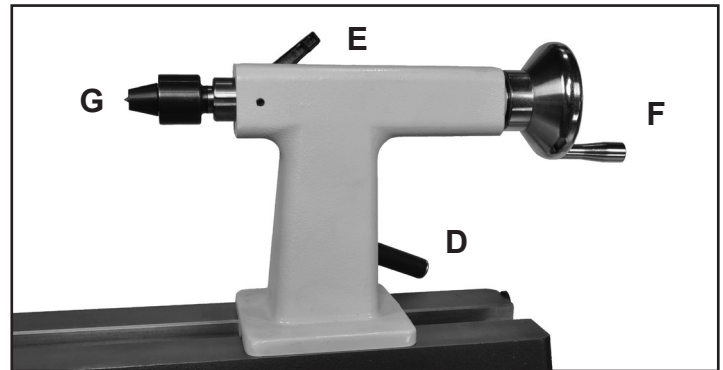

FIG. 5
1. **TAILSTOCK LOCK HANDLE:** (FIG. 5, D) Locks the tailstock in position along the length of the lathe bed. Unlock the cam lever handle to position the tool rest to move the tailstock. Tighten handle when properly positioned. See page 13 for adjusting clamping pressure.
2. **TAILSTOCK QUILL LOCK HANDLE:** (E) Secures the tailstock quill in position. Unlock the handle to move the quill, with live center, forward or backwards. Tighten the locking handle when the quill is finally positioned.
3. **TAILSTOCK QUILL HANDWHEEL:** (F) The handwheel advances or retracts the quill 0 to 4". The tailstock quill lock handle (E) must be loose to move the quill.
4. **TAILSTOCK LIVE CENTER:** (G) Used for turning between centers. The Live Center (#11C) and the Quill (#7C) have MT-2 tapers. Remove the live center by retracting the quill until the center loosens, or use the knockout bar.